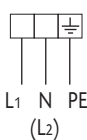

Fig. 47
- Connect the phase and earth cables to the terminal block "B" according to the diagram in figure 47.